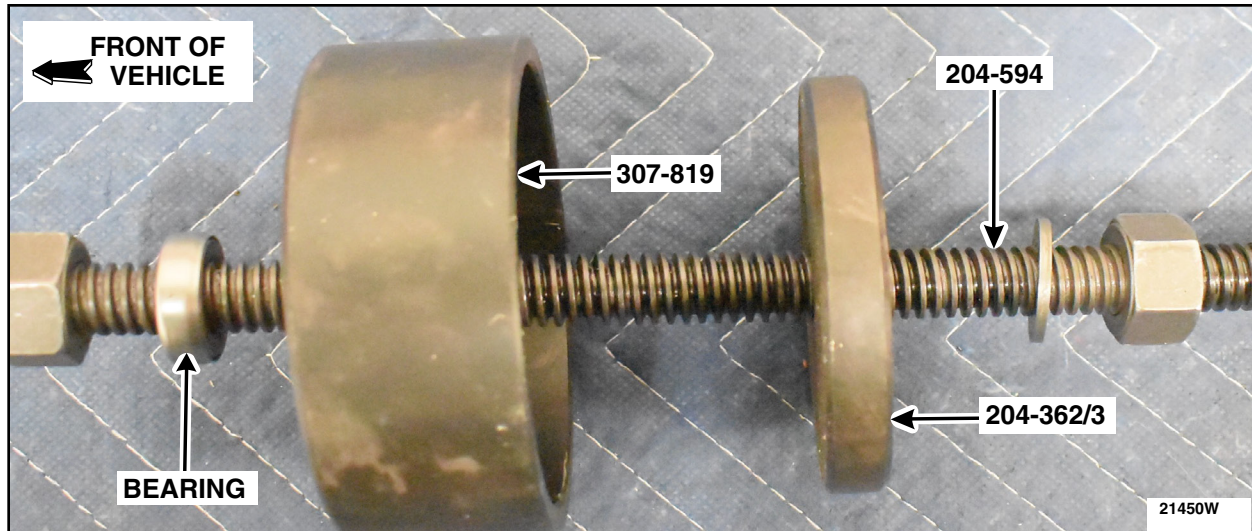

FIGURE 7
12. Install the *new* rear axle assembly subframe bushing using the Special Service Tool: 204-594 Forcing screw, 204-362/3 Remover/Installer, Front Subframe Bushing, and 307-819 Cup, Receiver. See Figure 7.